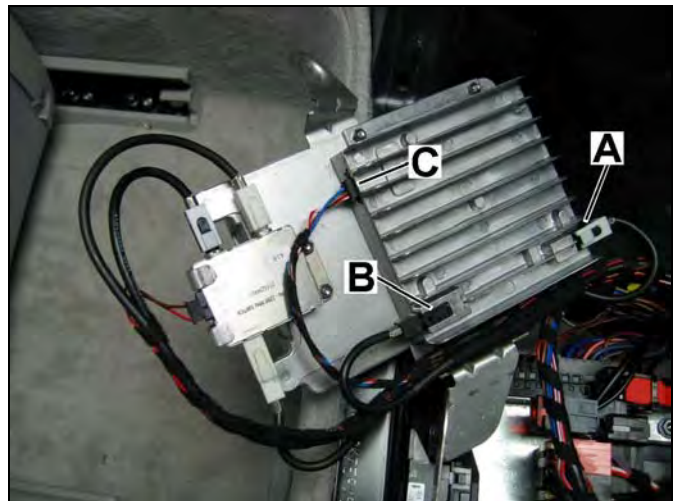

Figure 16
9. Connect the FAKRA antenna male, black connector to the linear compensator jack labeled "PORTABLE" (A, Figure 16).
10. Connect the FAKRA antenna female, **WHITE** black connector to the linear compensator jack labeled "ANTENNA" (B, Figure 16).
11. Connect the power supply connector to the linear compensator (C, Figure 16).